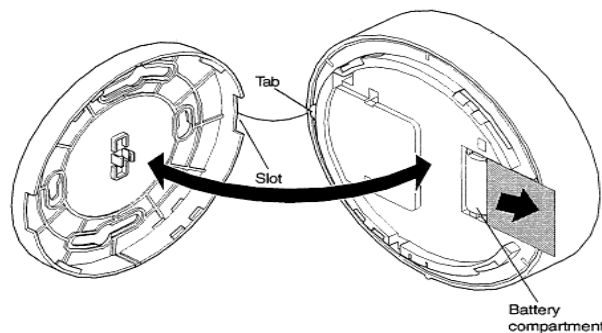

Figure 4 - Smoke Alarm-to-Base Alignment
Slide the battery compartment cover away from the alarm to unsnap it and lift it off. See Figure 4.
Attach the alarm to the mounting base as follows: Line up the raised tab on the lip of the alarm with the slot on lip of the mounting base. See figure. 4 Insert the smoke alarm into the base and turn clockwise approximately 15 degrees. It should snap firmly into place.
- Line up the raised tab on the lip of the smoke alarm with slot on the lip of the mounting base. See Figure 4.
Slide the battery compartment cover away from the alarm to unsnap it and lift it off (See Figure 4).